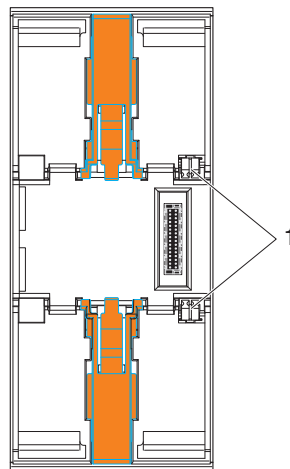

Figure 7-1 FE spring (1)
- 1 The modules have at least one FE spring (metal clip, 1 in Figure 7-1) at the bottom. This spring establishes an electrical connection to the DIN rail when the module is mounted. The bus coupler has one FE spring, the I/O modules have one or two FE springs. Use grounding terminal blocks to connect the DIN rail to protective earth ground. The modules are then also grounded when they are snapped onto the DIN rail.